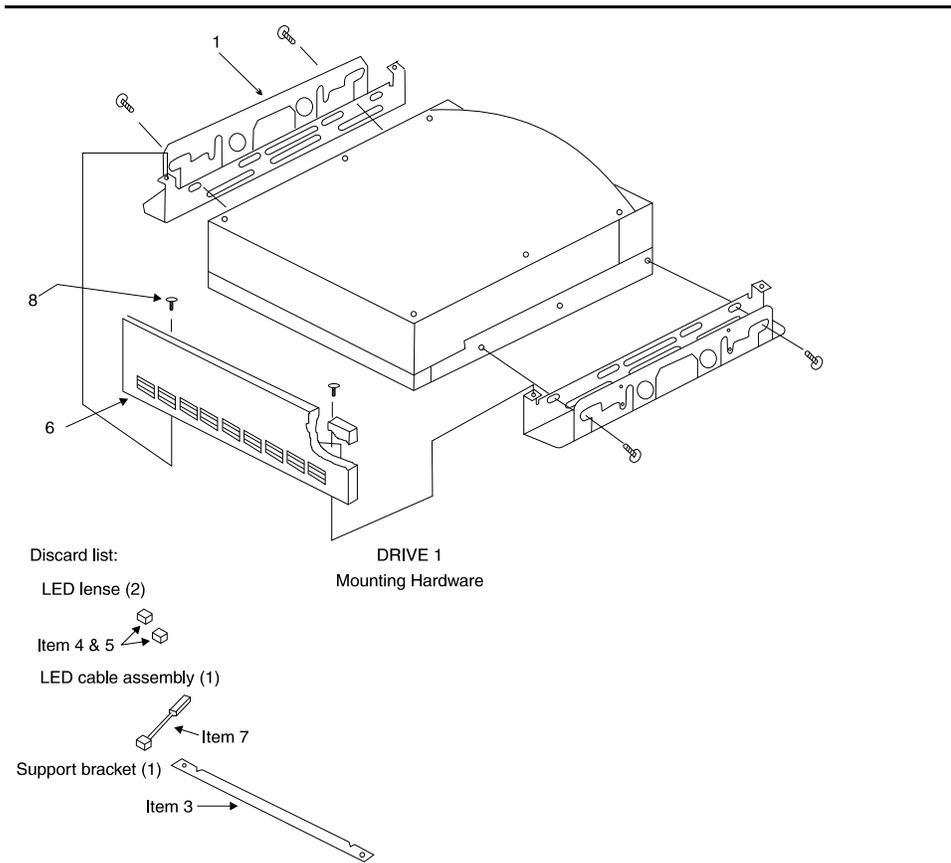

Figure 4-4. Universal Installation Kit
9. Assemble the installation kit according to the directions in the box. See Figure 4-4.
13. Locate the drive between the rails; the J1, J3 connector end of the drive unit should be flush with the spacer bar as illustrated in Figure 4-4.